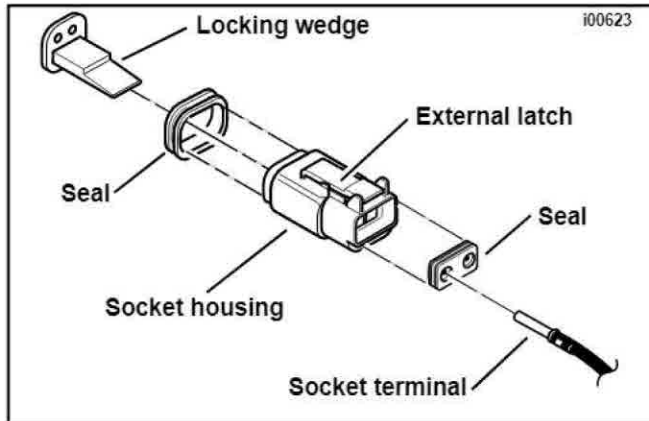
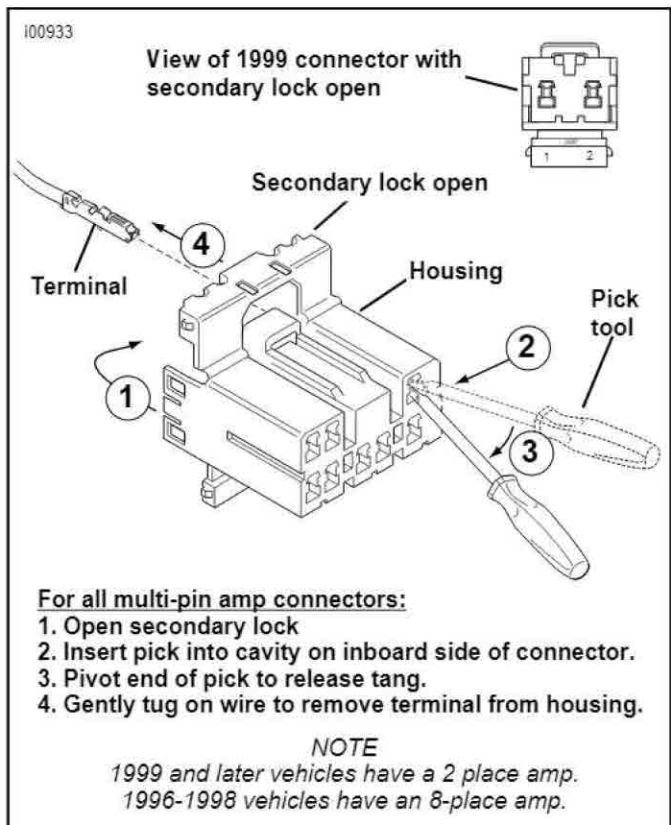

Figure 1. Rear Turn Signal Electrical Connector
Figure 2. Amp Multilock Electrical Connectors
On 1999 and later vehicles, the multilock amp connector is under the lens plate of the taillight. 1996-1998 vehicles have an 8-place multilock amp connector as shown in Figure 2. 1994-1995 vehicles have a Deutsch connector as shown in Figure 1.
2. **1994-1995 vehicles:** See Figure 1. Follow the rear turn signal wires to the two connectors located under the seat. Separate the socket halves of the rear turn signal connectors by pressing the external latch of each connector and rocking the socket half back and forth until free. Leave the pin halves of the connectors attached to the frame. Remove each connector's orange secondary locking wedge by inserting the blade of a small screwdriver in the locking wedge groove. Turn the screwdriver 90 degrees to pop the wedge up.
3. See Figure 2. On 1999 and later models, it is necessary to remove the taillight lens to access the amp multilock connector. On 1996-1998 vehicles with multilock amp connectors, remove the connector from the retaining device according to the applicable Service Manual instructions: